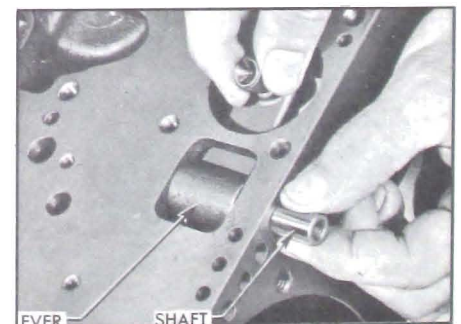

Figure 5-114—Installing Low Band Operating Lever and Shaft
1. Install the low band operating lever and shaft. Strut shoulder of lever must be toward inside of case and tapped end of shaft must be outward. See Figure 5-114.